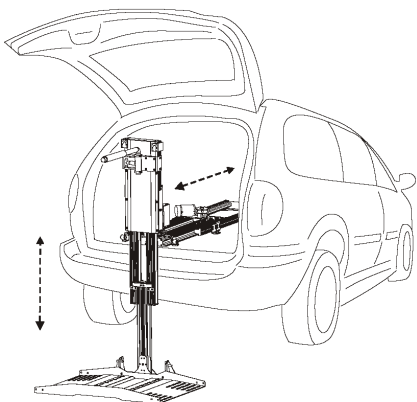

Figure 4-45
6. Test the function and full range of motion of the lift with the platform unloaded. Check that the platform clears the vehicles opening and any obstructions within the vehicle. *See Figure 4-45.*